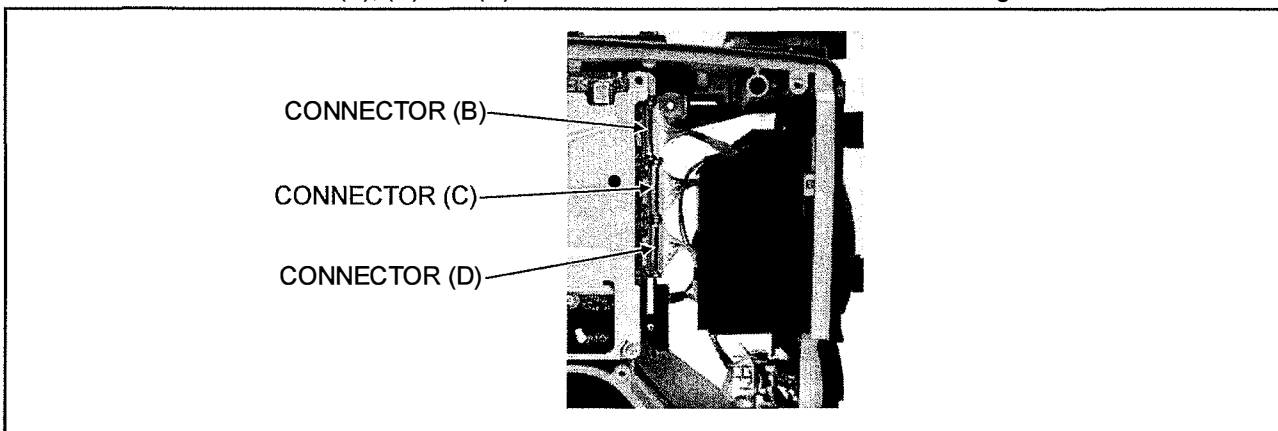

Figure 13-2
5. Disconnect the connector (B), (C) and (D) on the DIGITAL MAIN P.C.B. as shown in figure 13-2.